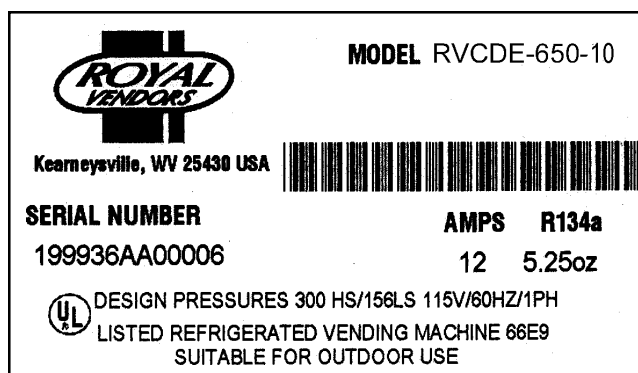

Figure 1.2
**Note:** There are two types of serial plates issued, see figure 1.2 and 1.3.
VENDER SERIAL PLATE - The vender's main serial plate (shown in figures 1.2 and 1.3) is located on the exterior left side of the vender's main door and has the following information:
#### How to read a serial number (fig 1.2):
The Refrigeration Serial Plate is located at the bottom of the Vender's cabinet in front of the Condenser coil. It is mounted to the refrigeration unit kick plate. It looks similar to the Serial Plate shown in Figure 1.2 with the exception that the model number specified is the refrigeration unit model (as shown below). There is currently one model in use: